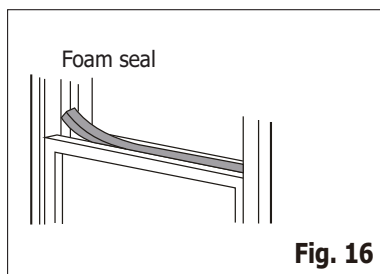

Fig. 16
5. Cut the foam seal to an appropriate length and seal the open gap between the top window sash and outer window sash, as shown in Fig.16.